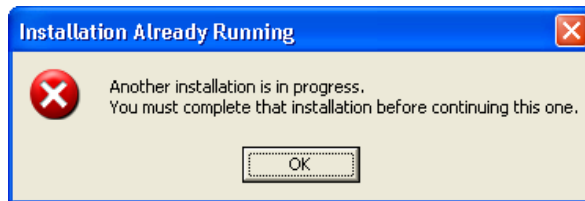

Figure 29. Installation Already Running Dialog Box (Click OK)
- b. **Installation Already Running dialog box (Figure 29):** Click **OK** to continue.